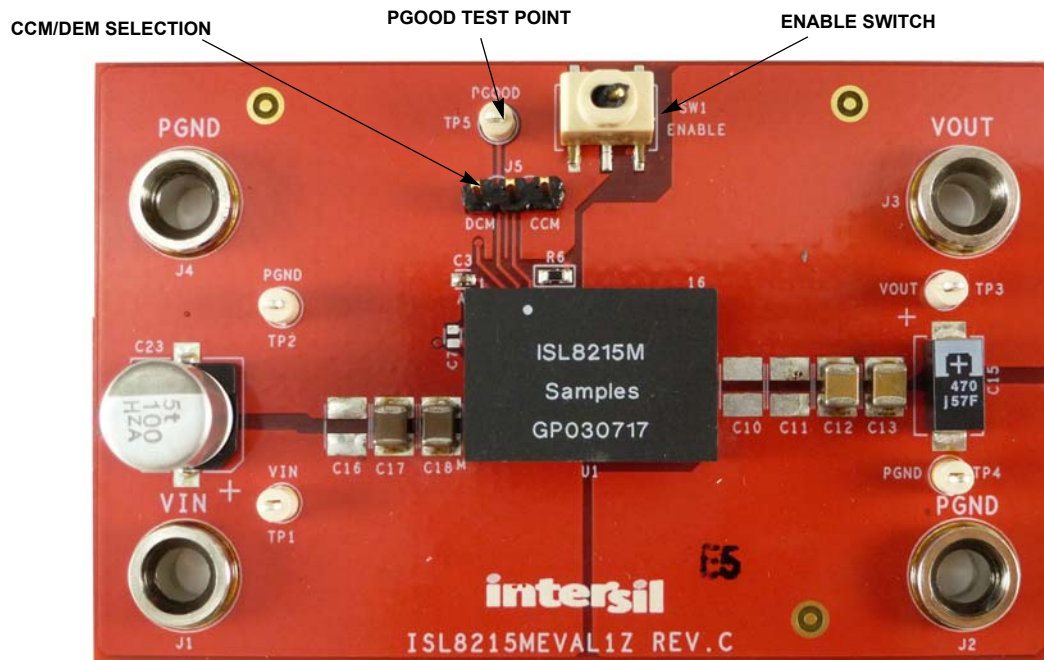

Figure 2. Top of Board
The ISL8215MEVAL1Z provides the peripheral circuitry to evaluate the feature set of the ISL8215M. The evaluation board is designed with mechanical switches for ENABLE, several connectors, test points, and jumpers, which makes validation of the module easy. The converter can be enabled and disabled by toggling the ENABLE switch as shown in Figure 2 on page 6. Connecting a jumper across the pins as shown in Figure 2 enables the PSM/DEM mode of operation, which can lead to higher efficiencies at light loads. Selecting features like external frequency synchronization can be performed by hooking the signal generator (square pulse waveform clock signal) to the MOD/SYNC pin. The output voltage (0.6V - 12V) and the switching frequency (300kHz to 2MHz) can be programmed by changing the resistors as shown in Figure 3 on page 6.
- (1) Disable the module by toggling the ENABLE switch as shown in Figure 2 on page 6.
- (2) Use the appropriate cables to connect the DC input power supply to banana sockets J1 and J4 and the electronic load to sockets J3 and J2. Ensure that the polarity for the power leads is correct and the input voltage is within the operating range (7V - 42V) of the module. Use test points TP1 (VIN) and TP2 (PGND) for accurately measuring the input voltage.
- (3) Turn on the input power supply.
- (4) Turn the ENABLE switch to position “SW1 ENABLE” for enabling the module.
- (5) Probe test points TP3 (VOUT) and TP4 (PGND) to observe the output voltage. The output voltage should read 3.3V.
- (6) Adjust input voltage, V_{IN} , within the specified range and observe output voltage. The output voltage variation should be within $\pm 1.5\%$.
- (7) Adjust the load current to within the specified range (0 - 15A) and observe output voltage. The output voltage variation should be within $\pm 1.5\%$.
- (8) To change V_{OUT} , disconnect the evaluation board from the setup and populate a standard 0603 resistor at the R_2 placeholder location on the bottom layer. The “Output Voltage Resistor Settings” table in the ISL8215M datasheet can be used as a reference for programming different output voltages. Refer to the “ISL8215M Design Guide Matrix” table in the ISL8215M datasheet for correct input and output capacitors, switching frequency, and output voltage combinations.
- (9) The switching frequency can be modified by populating a standard 0603 resistor at the R_{11} placeholder location on the bottom layer. Refer to “Equation 2” in the ISL8215M datasheet for selecting the correct value of R_{11} within admissible operating range (300kHz - 2MHz).